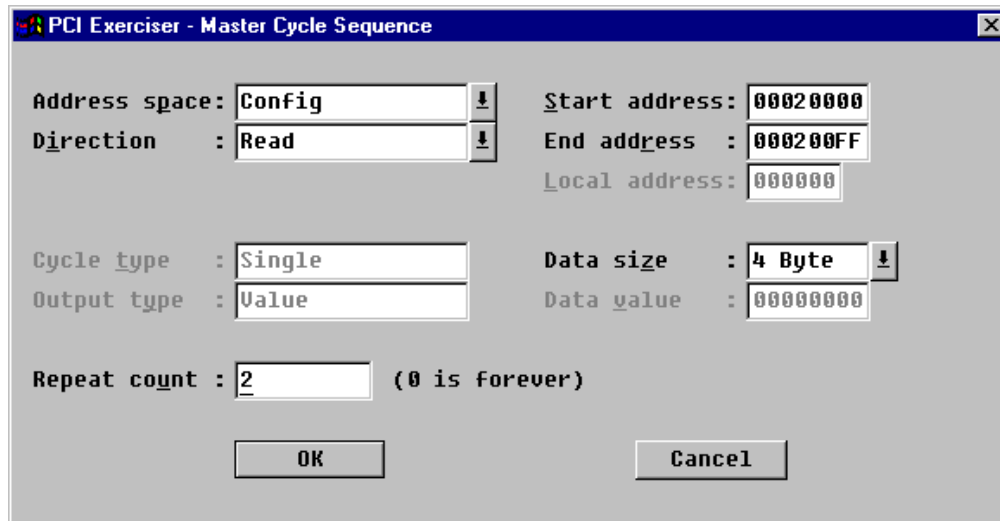

Figure 6.30 Master Cycle Sequence command
**Master menu:** Select **Cycle Sequence** from the Master menu, and the dialog box in Figure 6.30 appears.